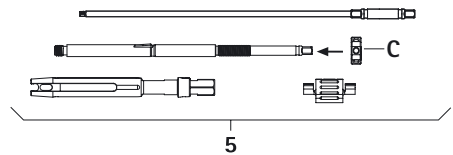

Fig. 9
- Screw lock nut **C** onto the lever threadpipe, see Fig. 9.